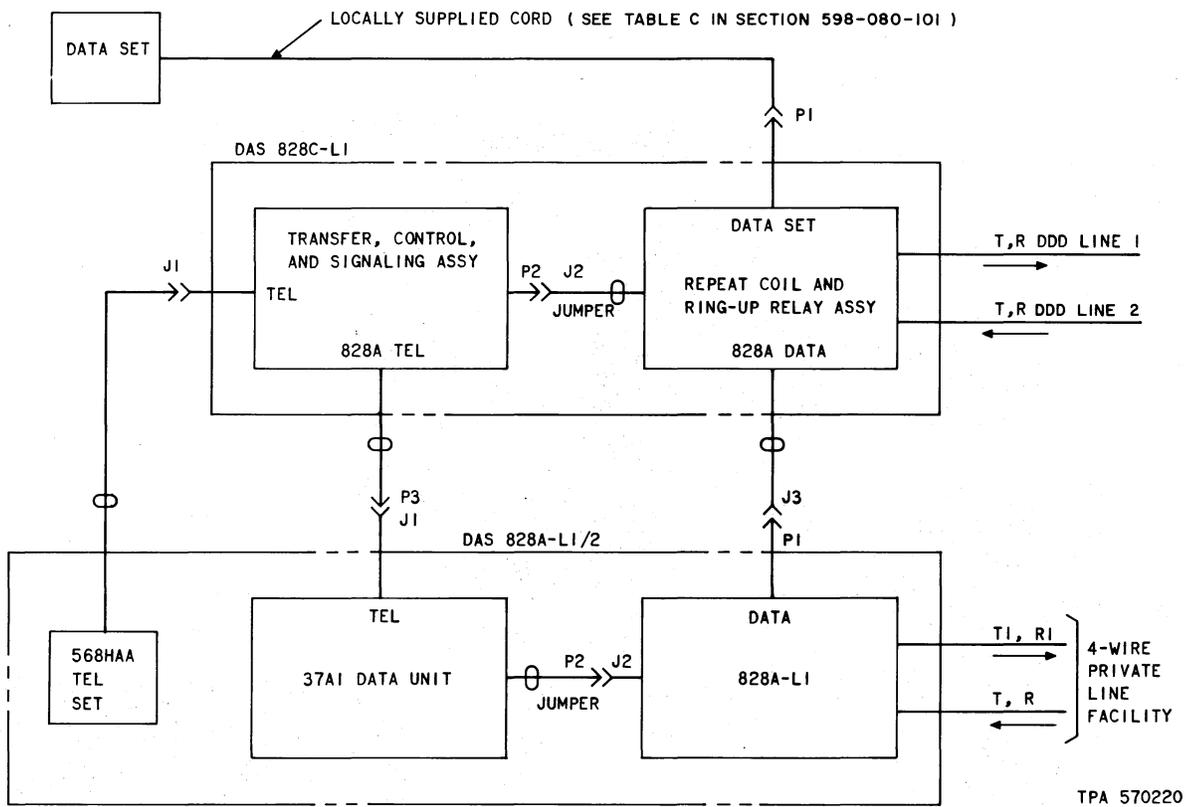

Fig. 6—Circuit Arrangement for DDD Backup of 4-Wire Private Line With Alternate Voice/Data
2.18 The functional block diagram of the FDA station arrangement is shown in Fig. 6. This figure shows the typical arrangement for DDD backup of 4-wire private line service with alternate voice/data using DAS 828A-L1/2 or -L1A/2 for the PL.